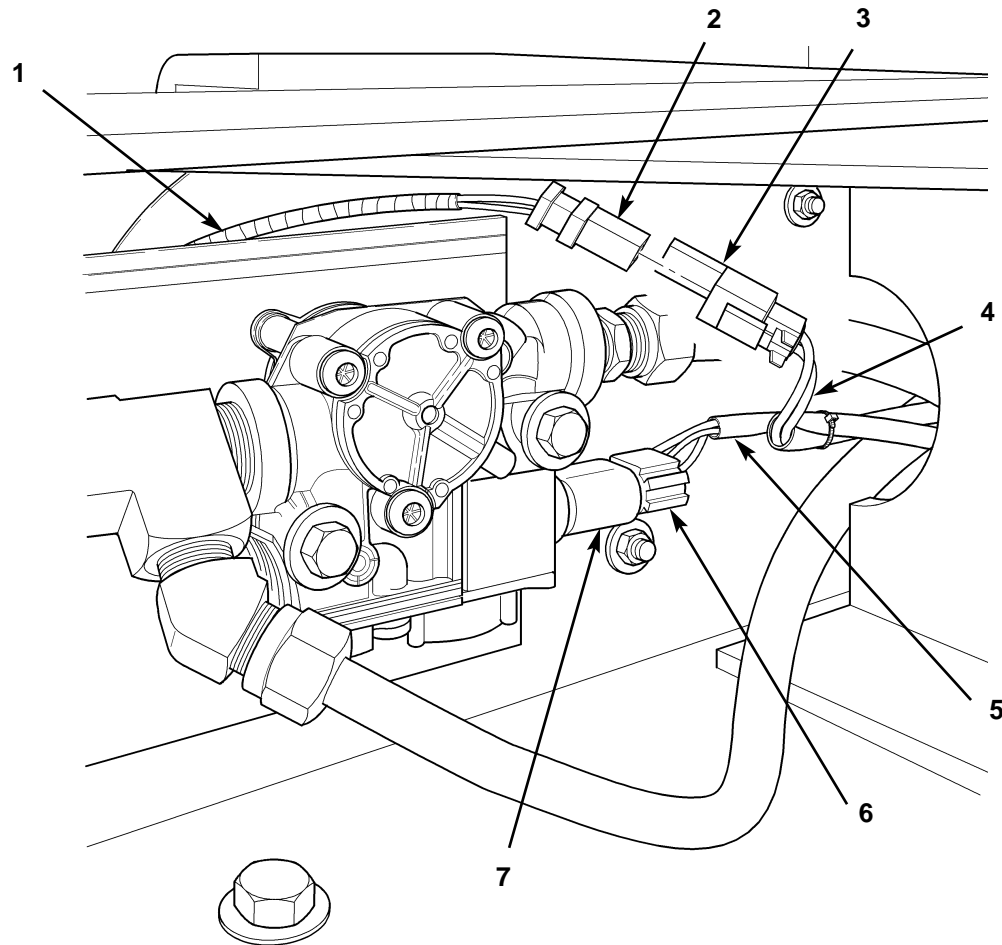

Figure 87. Connecting Harness Leads to Wheel Sensor Cable and Modulator.
38. Connect plug (figure 87, item 2) from wheel sensor cable (figure 87, item 1) to harness receptacle connector (figure 87, item 3) on wheel sensor harness (figure 87, item 4).
39. Connect plug (figure 87, item 6) from modulator harness (figure 87, item 5) to modulator receptacle (figure 87, item 7).
40. Secure loose wheel sensor cable (figure 87, item 1) to brake hose or tube assembly with tie straps.